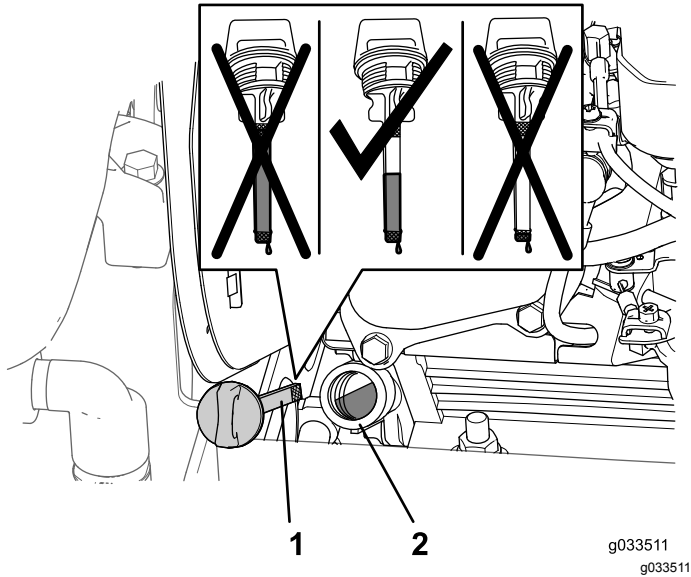

Figure 62
1. Remove the dipstick from the filler neck of the engine and wipe clean the dipstick with a rag (Figure 62).
2. Slowly pour 1.1 L (1.2 US qt) of the specified oil into the crank case of the engine through the filler neck (Figure 62).
4. Remove the dipstick from the filler neck and look at the oil level in the dipstick (Figure 62).
Note: The engine oil level must cover between the hatch marked areas on the dipstick (Figure 62).
6. Hand tighten the dipstick into the filler neck (Figure 62).